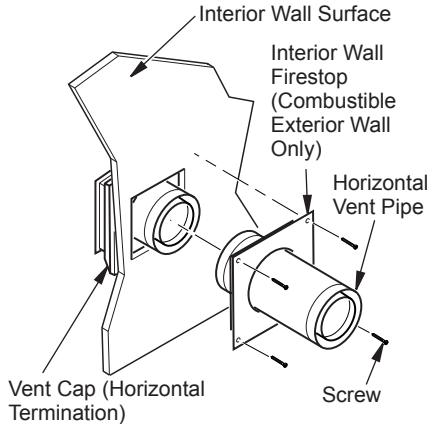

Figure 16 - Connecting Vent Cap with Horizontal Vent Pipe
5. **Connecting Vent Cap With Horizontal Vent Pipe:** Slide interior wall firestop over vent pipe before connecting horizontal run to the vent cap (see Figure 16).
Slide wall firestop against interior wall surface and attach with screws provided (see Figure 16).